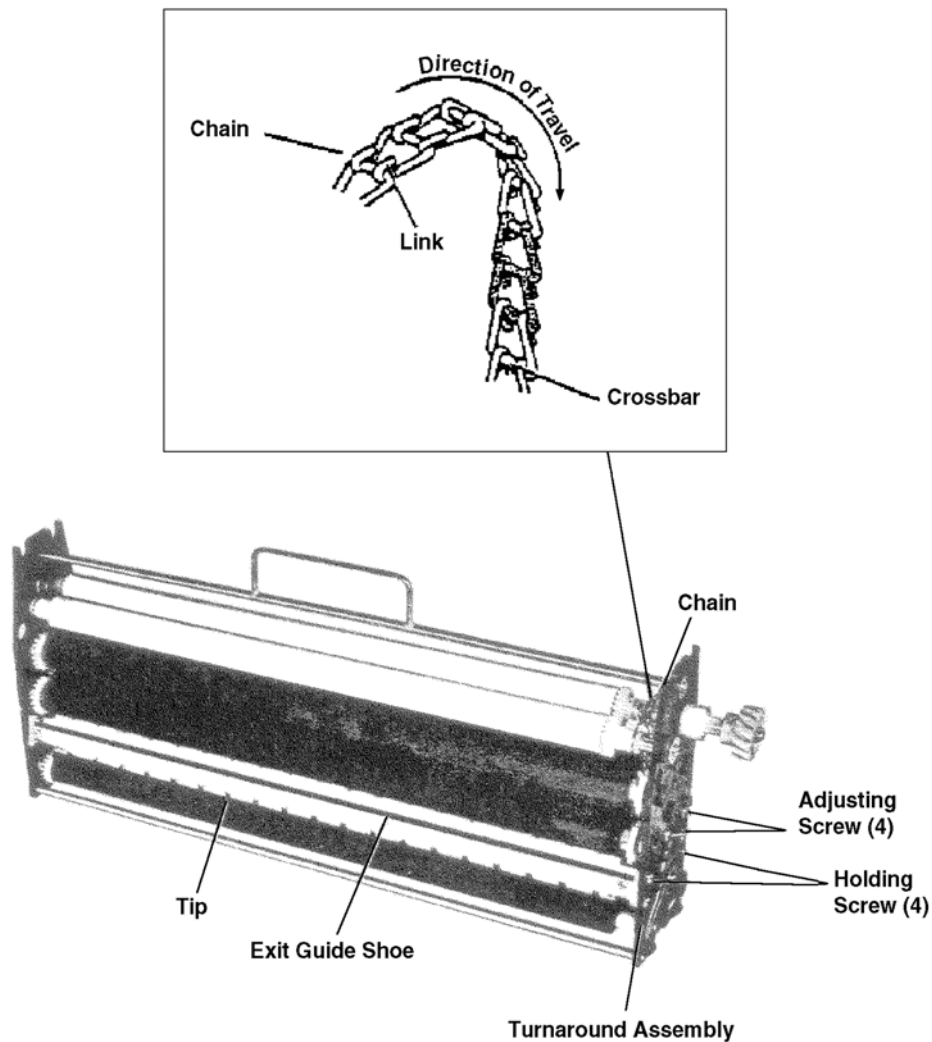

Figure 4-12. Wash rack assembly.
- (1) Loosen the four holding screws.
- (2) Rotate the four adjusting screws clockwise to increase the tension (or counterclockwise to loosen the tension).
- (3) Tighten the four holding screws.
- (4) If the chain is too loose with maximum adjustment, remove a link. Refer to figure 4-12.